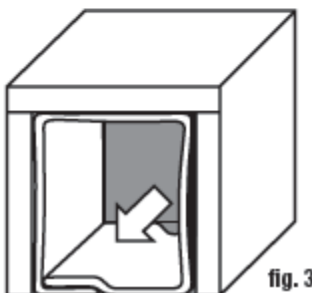

fig. 3
4. Install the Thinsulate™ Acoustic Insulation (fig. 3).